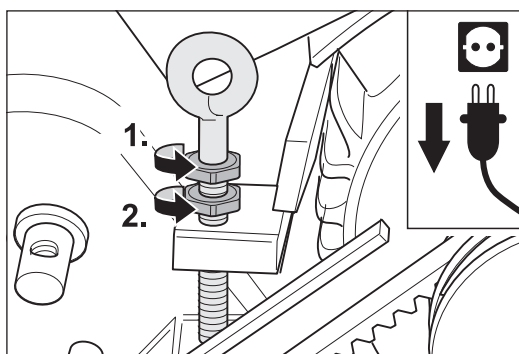

Fig. 99 Loosen the two nuts at the eye bolt at the motor.
- 3 Loosen the two nuts at the eye bolt at the motor (Fig. 99) and turn them upwards.